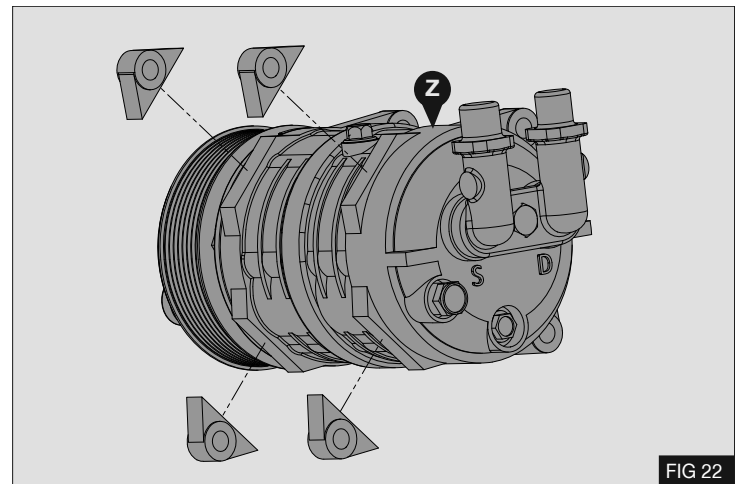

FIG 22
3. Modify refrigerant compressor (Z) by carefully removing the mounting lugs indicated - Fig 22